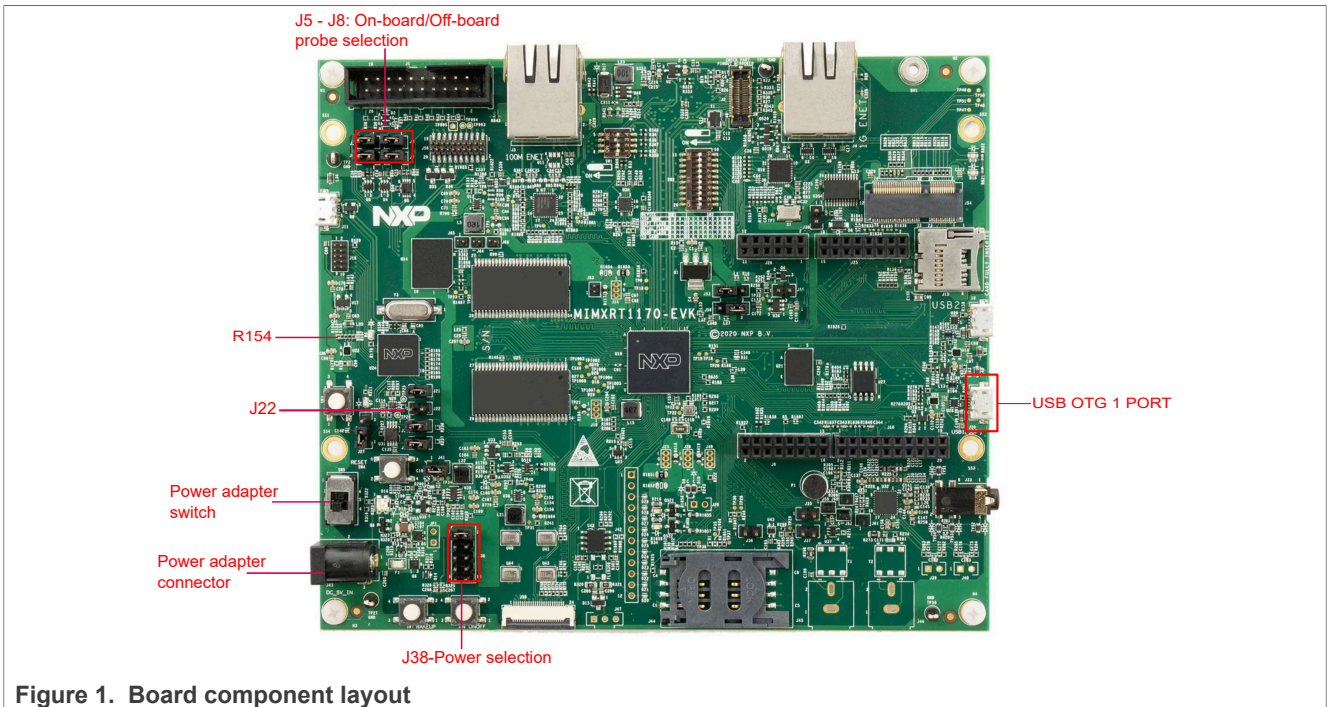

Figure 1. Board component layout
2. Install the jumper J22 (Marked in Figure 1) and connect the USB cable.
- a. Change the connection to be 1 - 2 on J38 (marked in Figure 1), and power the board by a power adapter.
- b. Change the connection to be 3 - 4 on J38 (marked in Figure 1), and power the board by USB OTG1 port (marked in Figure 1).
- c. Solder R154 (marked in Figure 1), and power the board by USB debug port.
Connect J5, J6, J7, and J8 (marked in Figure 1) to select LPCLink2 J-Link.
Before using the J-Link probe, disconnect J5, J6, J7, J8 (marked in Figure 1) and then connect J-Link, as shown in Figure 17.